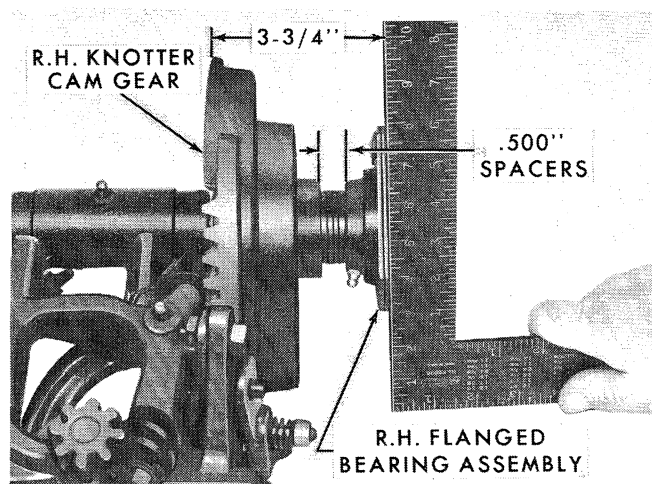

Figure 99
8. Install approximately 0.500" spacers (8), the right-hand flanged bearing assembly (9) (with mounting bolts installed), 0.150" spacers (10), and the adjusting nut (11). Tighten the nut to remove any end play in the knotter stack, then back it off until the bearing is allowed to rotate freely. Do not install the cotter pin at this time.
10. With a square or other straight edge positioned as shown in Figure 99, measure the distance between the machined surface of the right-hand knotter cam gear and the outer surface of the right-hand (flanged bearing assembly). The measurement should be 3-3/4" plus or minus 1/32". Add or remove spacers (8), as required to obtain the dimension.